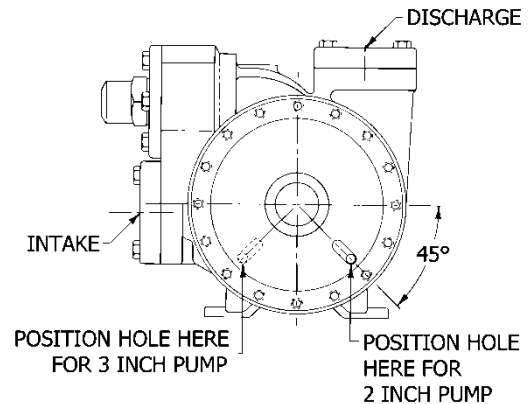

Figure 6 – Disc Relief Hole Location
Install the disc (71) on the inboard side of the pump with the seal cavity facing outward and the disc relief hole located as shown in Figure 6.